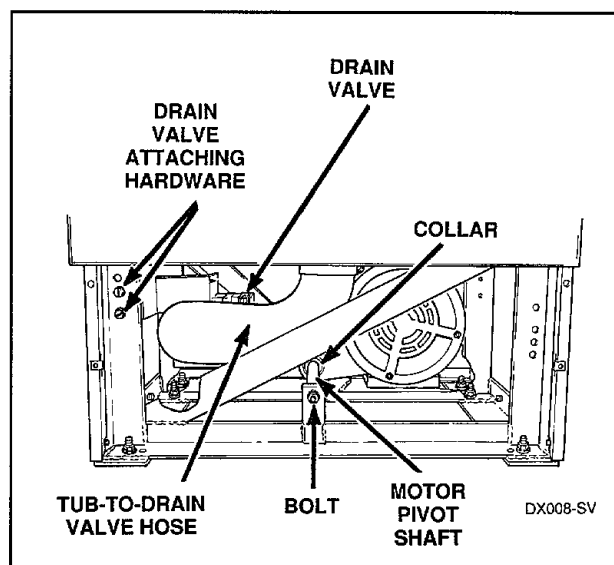

Figure 11
- h. Loosen setscrew in shaft collar closest to front of washer and in the collar welded to washer base, *Figure 11*. The setscrew located in the collar at the rear of the washer need not be loosened.
- i. Remove front bolt and lockwasher from motor support rod, *Figure 11*, and slide rod out through rear of washer.
- c. Loosen hose clamp and remove hose from drain valve, *Figure 11*.
- e. Remove attaching hardware holding drain valve and bracket to left side of washer frame, *Figure 11*.
- f. Loosen hose clamp on drain valve-to-tube hose and remove drain valve from hose, *Figure 11*, then remove drain valve out through front of washer.